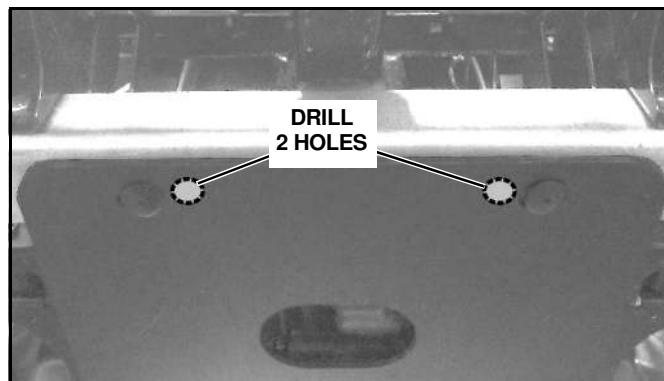

Figure 10
13. Drill 2 holes in the bottom skid plate to clear the heads of the (2) 3/8" x 1-1/4" Hex Head Cap Screws (#7) installed in step 10. (See Figure 10.)